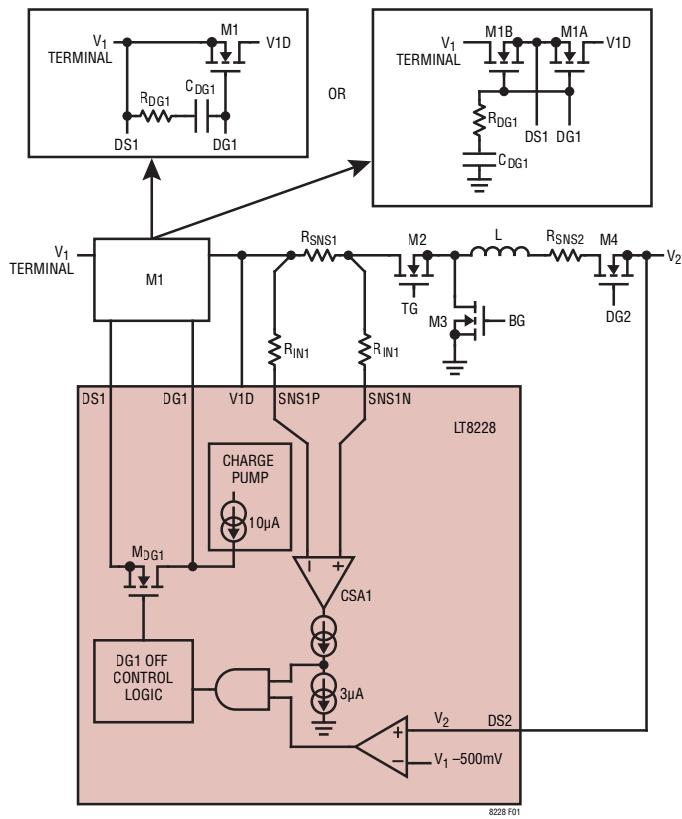

Figure 1. M1 Control in Buck Mode
The LT8228 provides protection functionality at the V₁ terminal using two N-channel MOSFETs M1A and M1B connected back-to-back in series or a single N-channel MOSFET M1 as shown in Figure 1. In dual MOSFET back-to-back configuration, DS1 is the source and DG1 is the gate of both M1A and M1B. V1D is the drain of M1A and V₁ is the drain of M1B. In single MOSFET configuration, the source of M1 is connected to DS1 and the V₁ terminal, DG1 is the gate and V1D is the drain. The advantages of the dual MOSFET configuration are inrush current control and complete isolation of the V₁ terminal in a fault condition. In normal operation, the controller drives DG1 high with a typical 10µA pull-up current that enhances the V₁ protection MOSFETs to provide a low loss conduction path between V₁ and V1D. The DG1 voltage is clamped at a typical value of 10V above DS1. The DG1 controller shorts DG1 to DS1 thereby isolating V₁ from the rest of the circuit when (1) the LT8228 is disabled or
The buck mode operation circuitry of the V_1 protection MOSFET controller is shown in Figure 1. Without protection MOSFETs, there is a direct conduction path from V_2 to V_1 through the body diode of the top MOSFET M2. If V_2 is higher than V_1 by a forward diode voltage, uncontrolled reverse current flows from V_2 to V_1 . Unlike other buck controllers, the LT8228 provides protection from this reverse current condition using the V_1 protection MOSFET. If V_1 falls within 500mV of V_2 and R_{SNS1} current passes negative threshold, the LT8228 detects reverse current. A fast pull-down circuit shorts DG1 and DS1, turning off M1. This isolates V_1 from V1D and stops any reverse current. The reverse current detect threshold is set by Equation 11.
In dual MOSFET configuration, inrush current to C_{DM1} and C_{DM2} in buck mode is limited by controlling the DG1 pin voltage slew rate. In this configuration, the compensation resistor R_{DG1} and capacitor C_{DG1} are ground referenced as shown in Figure 1. At start-up, a 10 μA pull-up current charges DG1, pulling up both MOSFET gates. M1B operates as a source follower (see Equation 12).